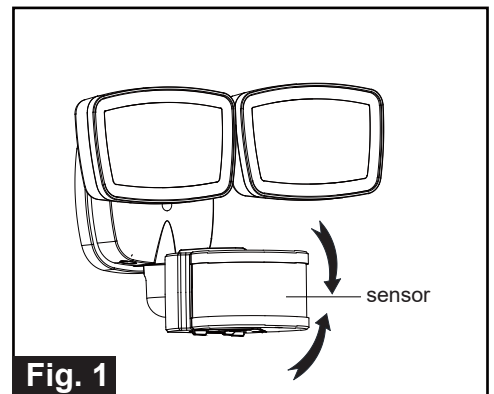

Fig. 1
2. You can move the sensor head up and down to change the coverage area. (See Fig. 1)